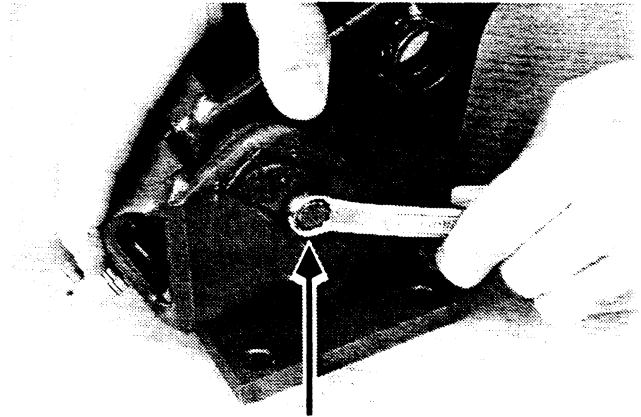

Figure 6-69: Removing Pivot Pin Retainer Screw
3. Remove pivot pin retainer screw. See Figure 6-69.